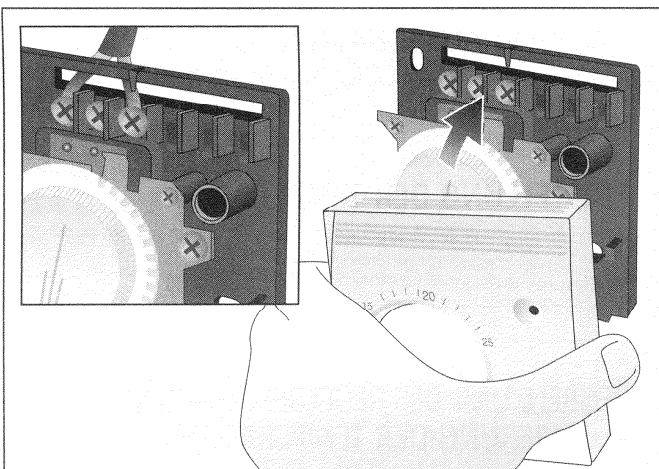

fig.10 - ΕΙΚ.10
C) Thread the power supply wires through the slot in the base and connect them to the terminals as per the wiring diagram sketched inside the appliance. Snap the front cover back. (fig.10)